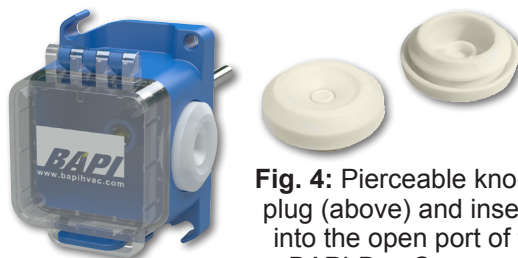

Fig. 4: Pierceable knockout plug (above) and inserted into the open port of the BAPI-Box Crossover.
5. A pierceable knockout plug is available for the open port in the BAPI-Box Crossover enclosure (see Fig. 4). The plug increases the enclosure rating from IP10 to IP44.